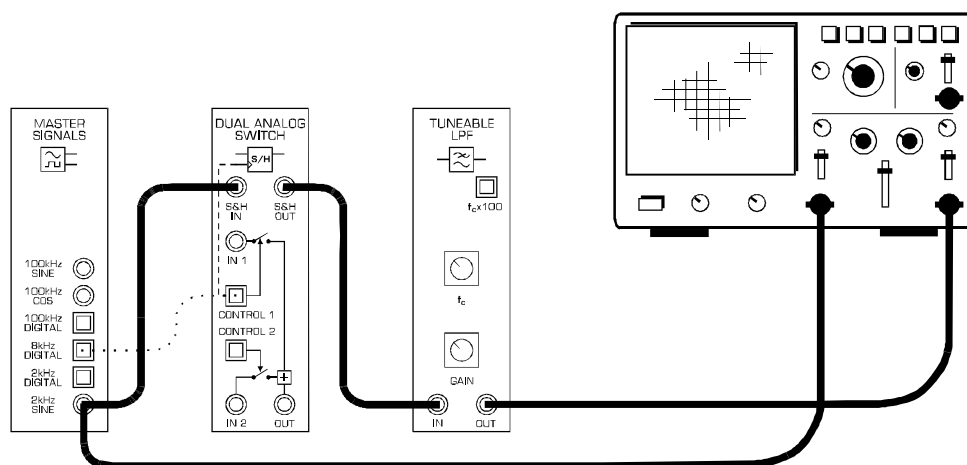
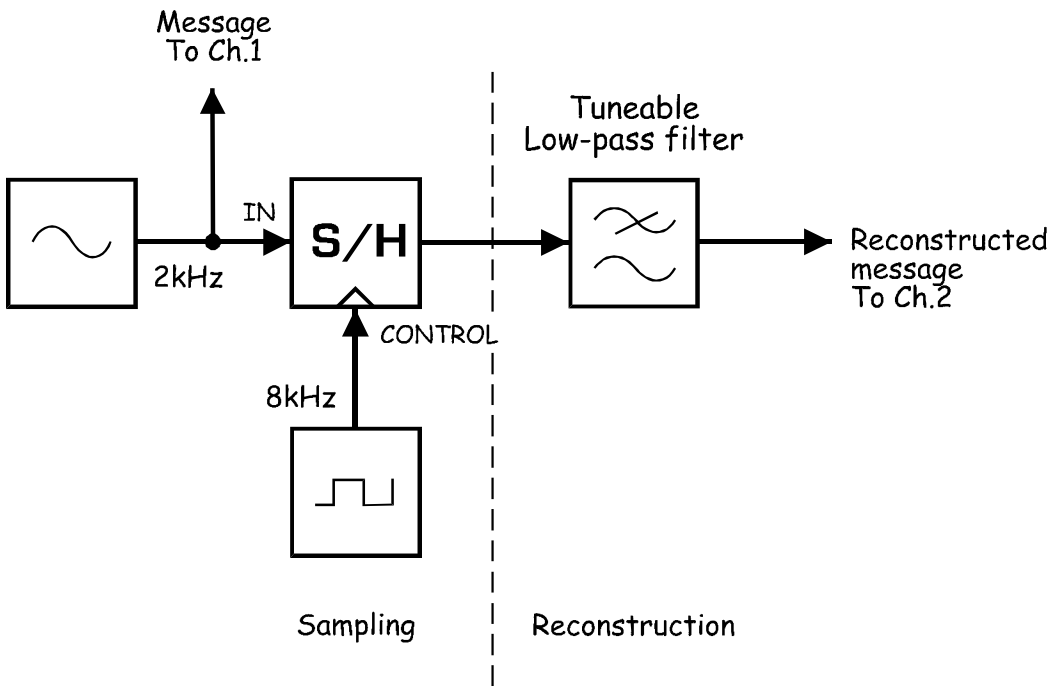

Figure 7
Figure 8
18. Modify the set-up as shown in Figure 7 below.
The set-up in Figure 7 can be represented by the block diagram in Figure 8 below. The Tuneable Low-pass Filter module is used to recover the message. The filter is said to be "tuneable" because the point at which frequencies are rejected (called the *cut-off frequency*) is adjustable.